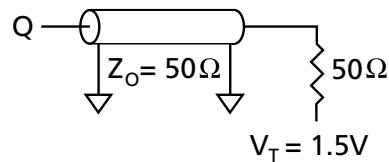

Figure 1
1. Test conditions as specified with the output loading shown in Figure 1 unless otherwise noted.
| Output load | See Figures 1 and 2 |